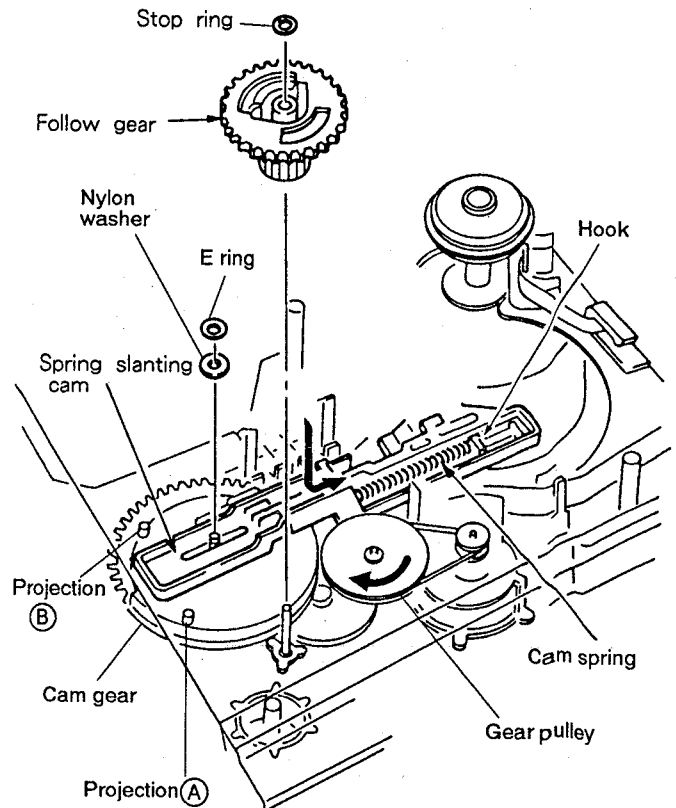

Fig. 13
- ③ Install a nylon washer and an E ring, and hang the cam spring on the hook. (Fig.13)
Note: The cam gear and spring slanting cam as shown in Fig.13 are positioned when installing the slide cam.
- ③ Install the stop ring. (Fig.13)
- ① Set the position of projection (A) and (B) of the cam gear by turning the gear pulley clockwise by hand as shown in Fig.13.